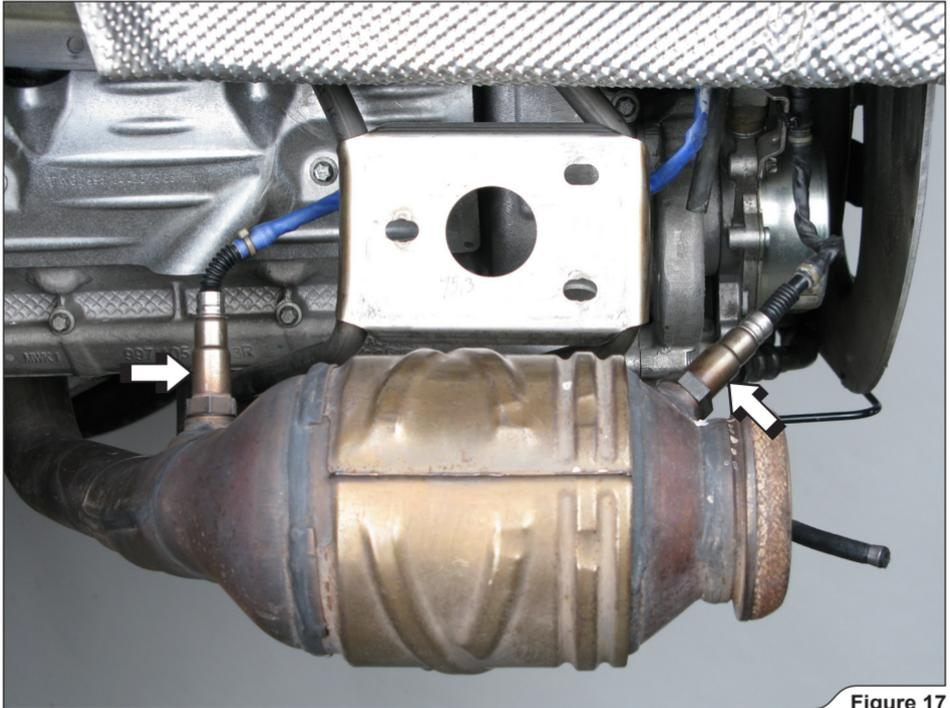
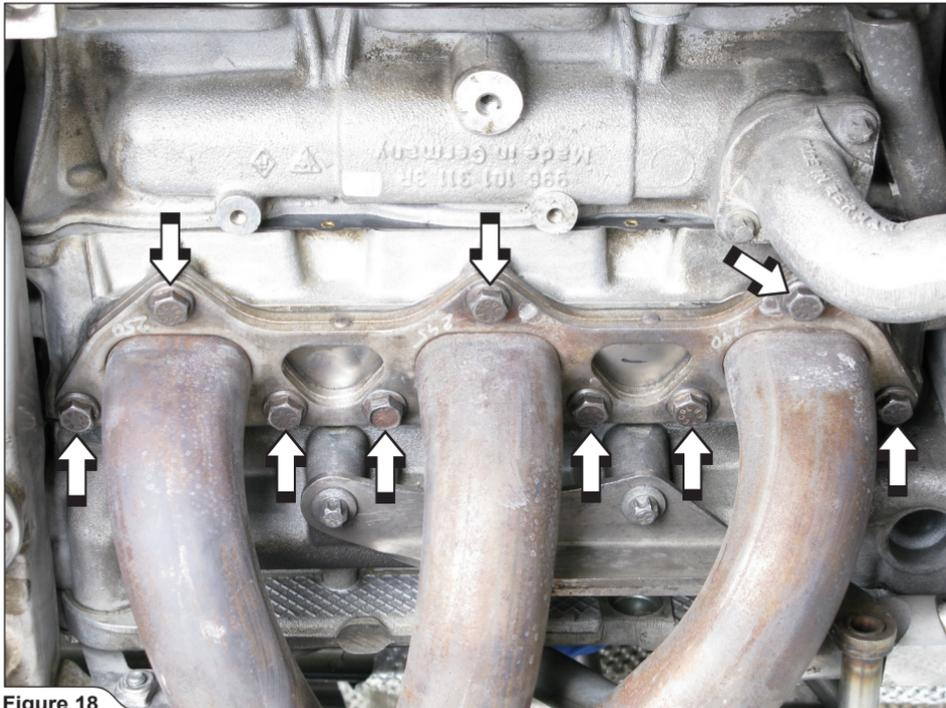

Figure 17
Figure 18
9. **For Evolution and Evolution-Race:** unscrew the lambda sensors (**Figure 17**) and marked bolts of the headers on both sides of the vehicle (**Figure 18**). Remove the headers off the vehicle.